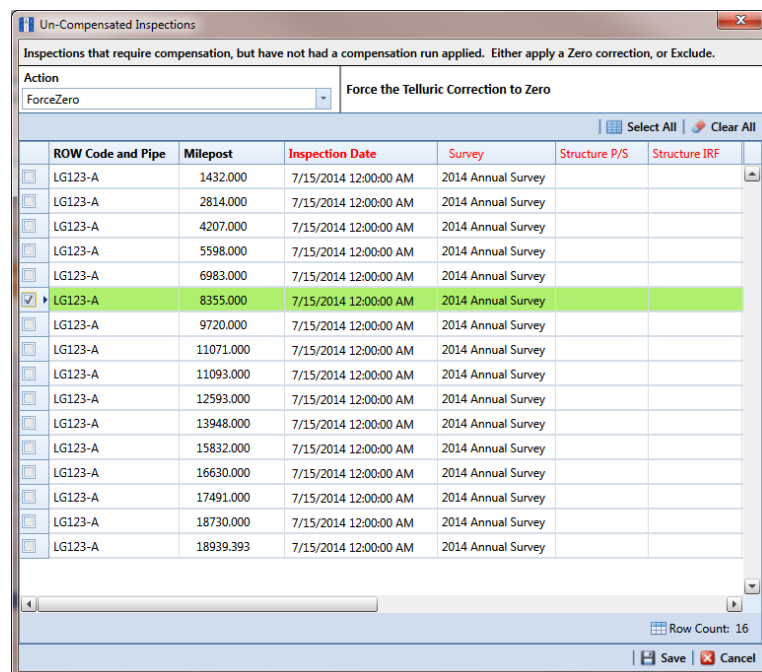

Figure 14-26. Un-Compensated Inspections
- 4 Click  **Un-Compensated Inspections** to open the *Un-Compensated Inspections* window. Then click the down arrow in the **Action** field and select **ForceZero** or **Exclude** (Figure 14-26).